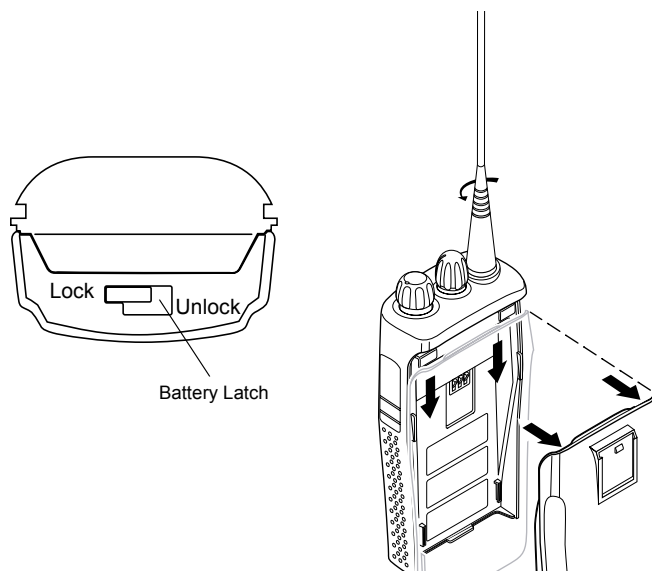

Figure 7-1. Battery Removal
2. Remove the battery (Figure 7-1):